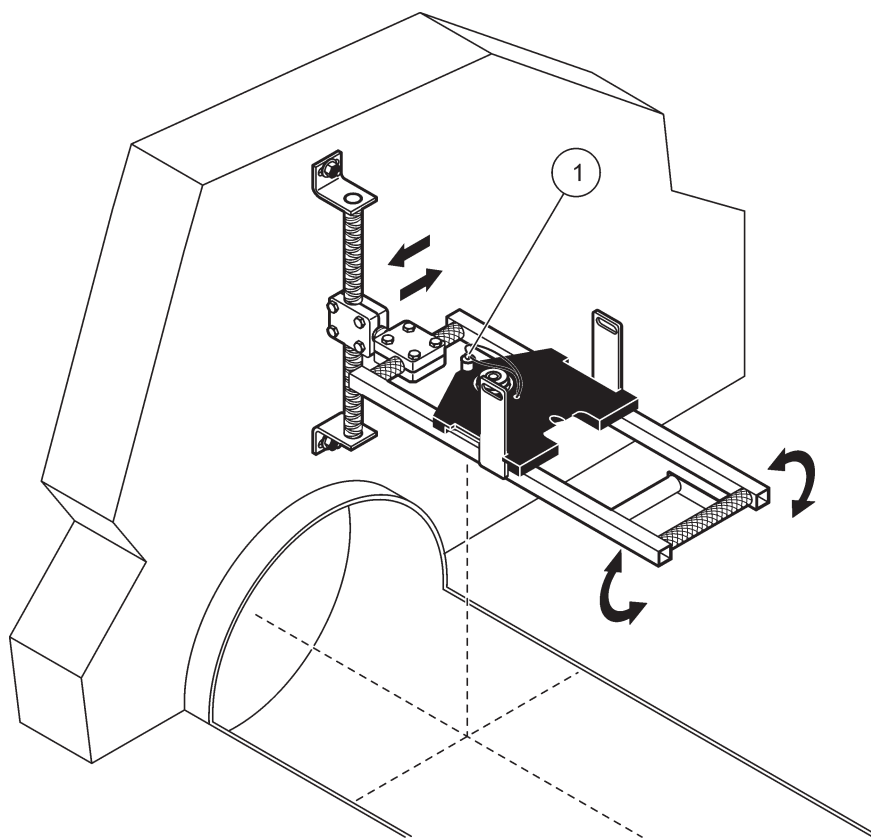

Figure 4 Level sensor adjustments
3. Turn the laser pointer on. Adjust the frame so that the laser beam is in the center of the flow (pipe). Use a tape measure to find the center. Side to side movement and rotation along the long axis of the frame will center the beam as shown in Figure 4.